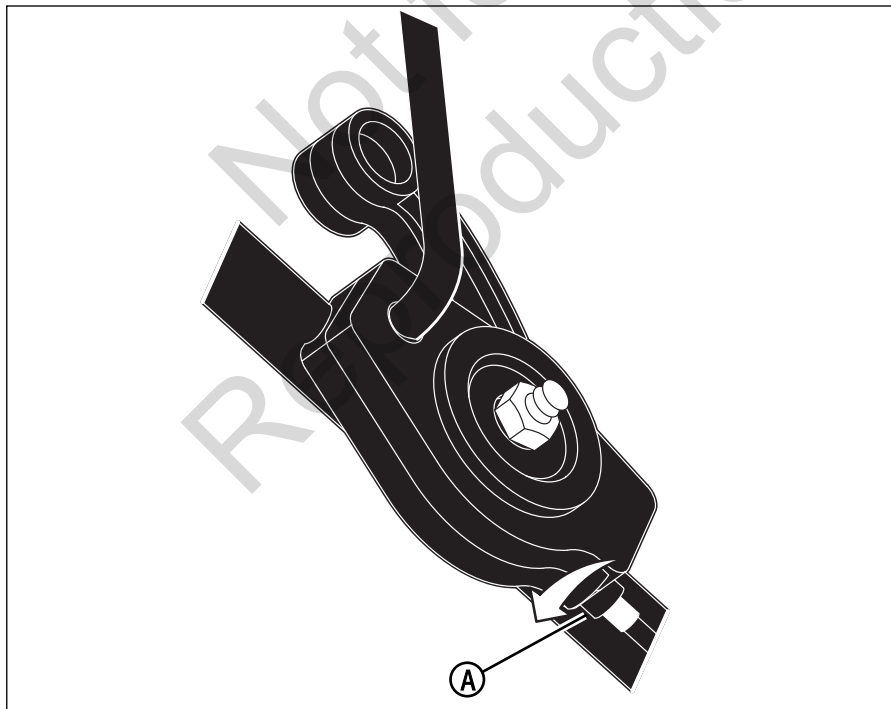

Figure 26: Adjusting the drive cable
1. If the drive system is slipping, turn the cable adjuster **(A, Figure 26)** one turn in the direction shown. Test the drive system and check for slippage.